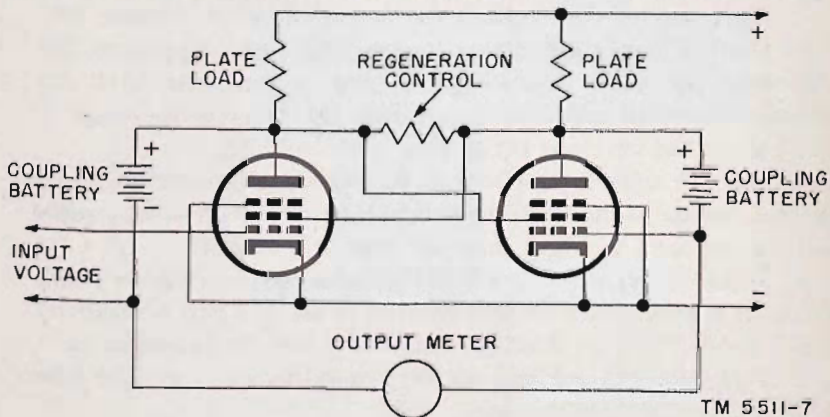
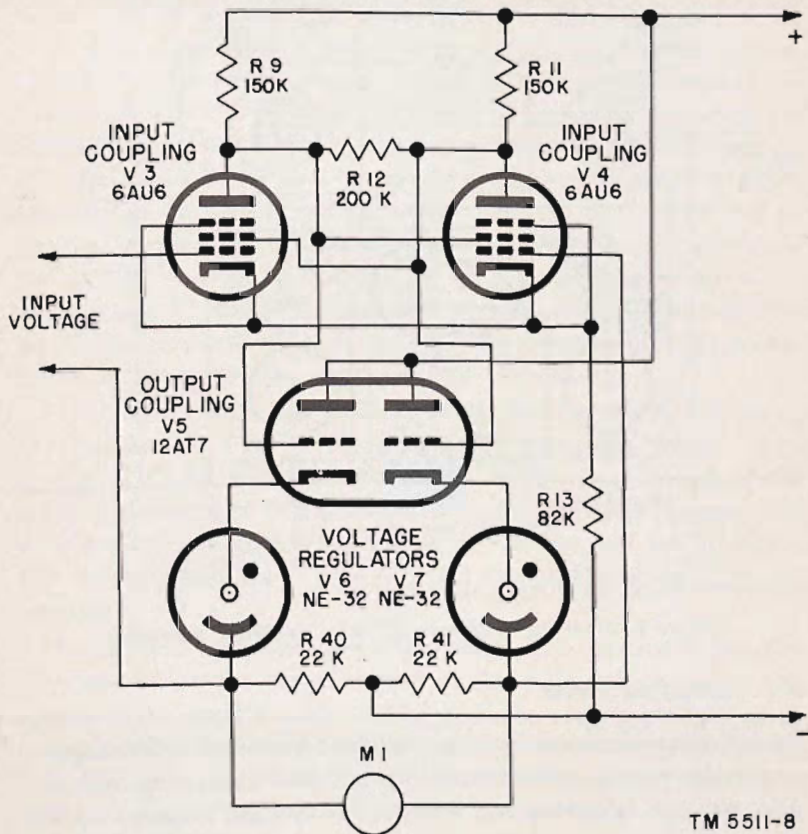

Figure 7. Simplified circuit illustrating amplifier operation.
Figure 8. Amplifier, simplified schematic.
a. The amplifier portion of the multimeter consists of tubes V3, V4, V5, V6, and V7. The operation of the amplifier will be understood more easily after an analysis of the circuit in figure 7. If the coupling batteries are removed, the screen grid, plate, and cathode of one tube are so phased with the corresponding elements in the other tube that the two tubes will act as a multivibrator. Since the circuit is in a state of oscillation, infinite gain is theoretically available from the amplifier because any minute voltage would be greatly amplified. However, the circuit cannot be used in this manner because it would be much too unstable. If the coupling batteries are replaced, it is seen that the action from plate to grid is degenerative. Under these conditions, the output voltage will be equal to the input voltage, thus maintaining a high input resistance and at the same time yielding the low output resistance necessary to operate the meter. The magnitude of the voltage from the coupling battery should be such as to give the proper bias to the tube.
b. The circuit in figure 8 is a simplified version of the circuit label which is found in Electronic Multimeter TS-505/U. The coupling batteries in figure 7 have been replaced by tubes V5, V6, and V7. Using tube V5 for coupling permits the operation of the plates of tubes V3 and V4 without any loading. Loading would occur if neon glow lamps V6 and V7 were connected directly to the plates of tubes V3 and V4. The neon glow lamps provide a low resistance coupling from tube V5 to the meter. Resistors R9 and R11 determine the gain of tubes V3 and V4. Resistor R12 sets the amplifier gain to unity. Resistors R40 and R41 provide a resistance across which the output voltage is developed. Resistor R13 is the biasing resistor for tubes V3 and V4.
c. The actual schematic diagram of the amplifier in the multimeter (fig. 9) is the same as that in figure 8 with the addition of several